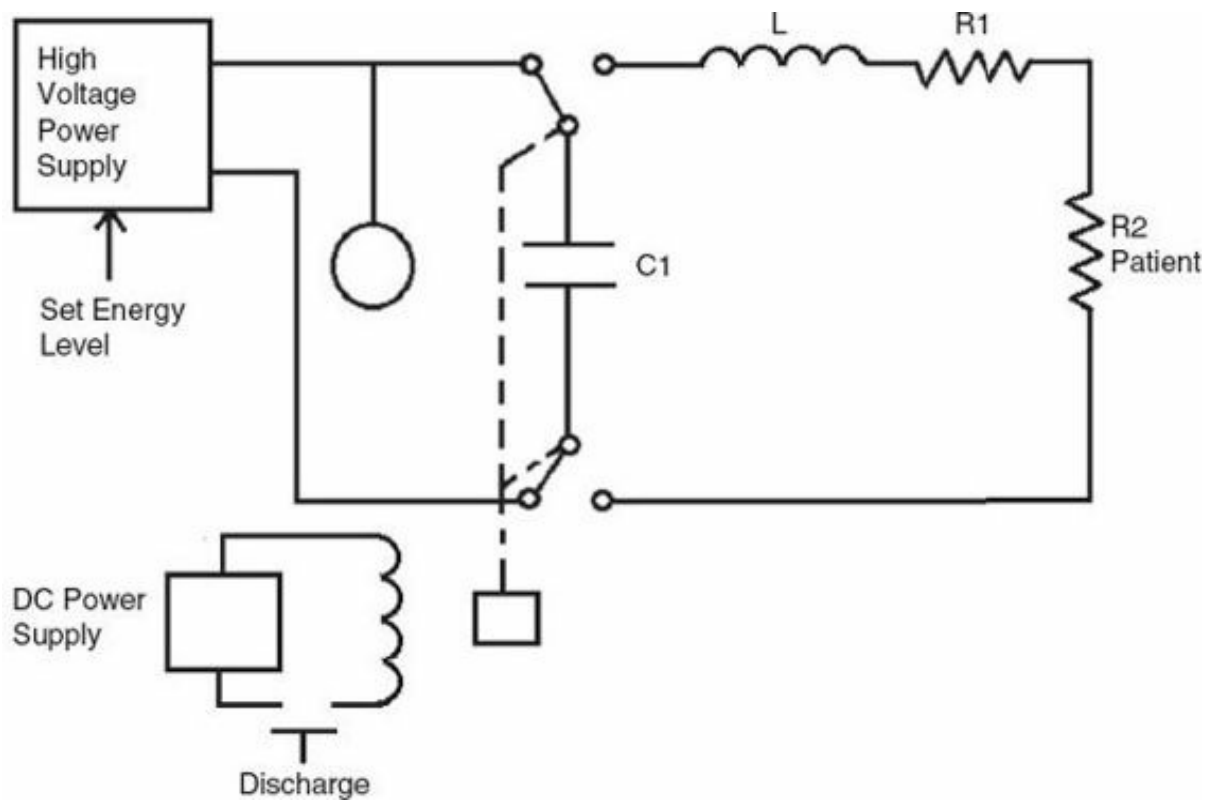

FIGURE 10.3 Lown defibrillator.
As shown in Fig. 10.3, the Lownd defibrillator consists typically of a 16-microfarad ( $\mu\text{F}$ ) capacitor ( $C_1$ ), 100-mH inductor ( $L_1$ ), resistance of the inductor ( $R_1$ ), and the patient's resistance ( $R_2$ ). After the capacitor is charged fully to about 400 J, energy will be stored and 7 kV will develop across the capacitor. During discharge the inductor's ( $L_1$ ) magnetic field will produce a negative waveform during the last 5 ms. The following are the events that occur sequentially:
6. During the last 5 ms the magnetic field across  $L_1$  collapses, producing a negative current and a voltage shown in Fig. 10.3.